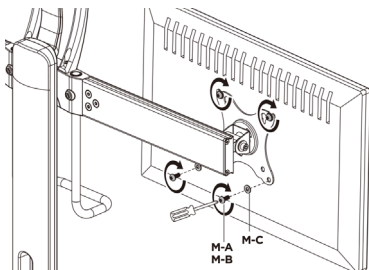

Figure 15
- Using the appropriate monitor mounting screws (x2 of x8), **Washers (2x of x8)** and the **5mm Hex Key with Screwdriver**, carefully drive each of the monitor mounting screws through each of the **Washers** and the appropriate VESA mounting pattern, and into the bottom two mounting holes on one of the monitor's VESA mount. As shown in Figure 15.